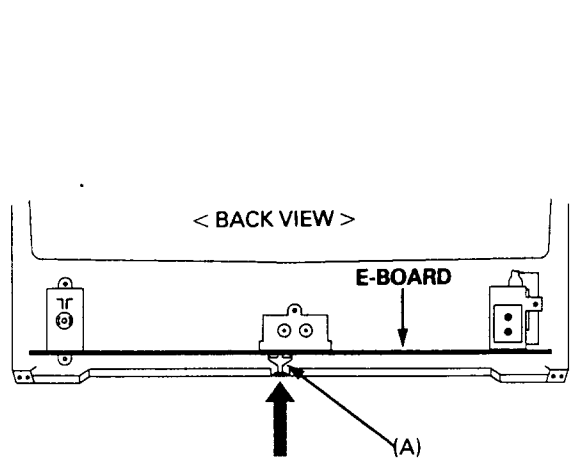

Fig. 3
1. Using a small screwdriver release the Pcb retaining clip (A) as shown in fig. 3 and 4.